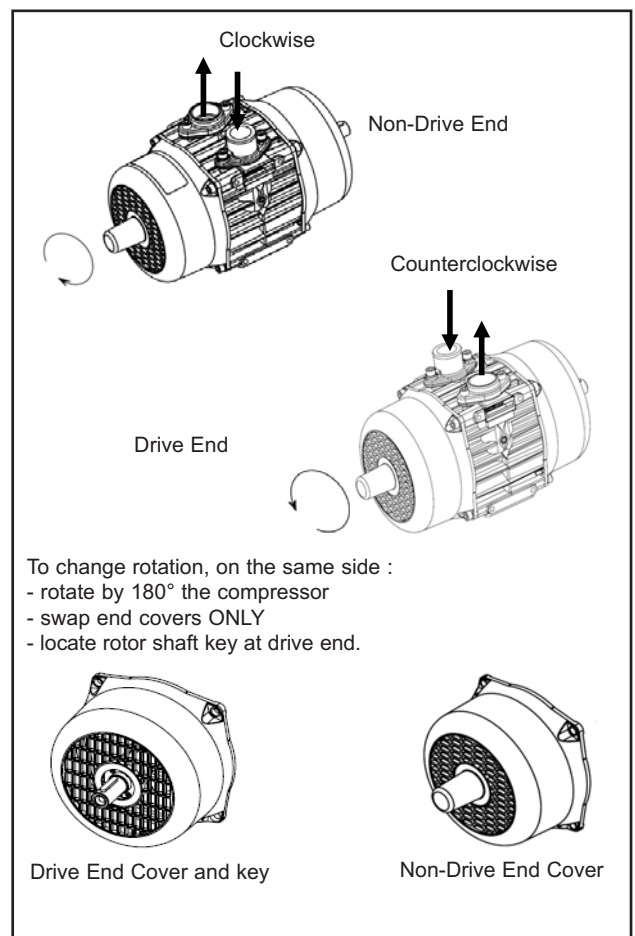

Figure 2
- The compressor can be driven from either end, however the drive shaft **MUST** always be horizontal +/- 5°. See Figure 2.